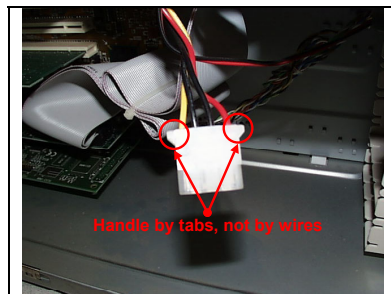

FIGURE IX.4
- 2) To remove the power cable grab the white connector and using a gentle side to side rocking motion pull straight out. Remember the power cables for the CD-ROM device has angles cut in 2 corners and can only go in one way when replacing it. It is usually very hard to remove. (**DO NOT PULL ON THE WIRES**). (see Figure IX.4)